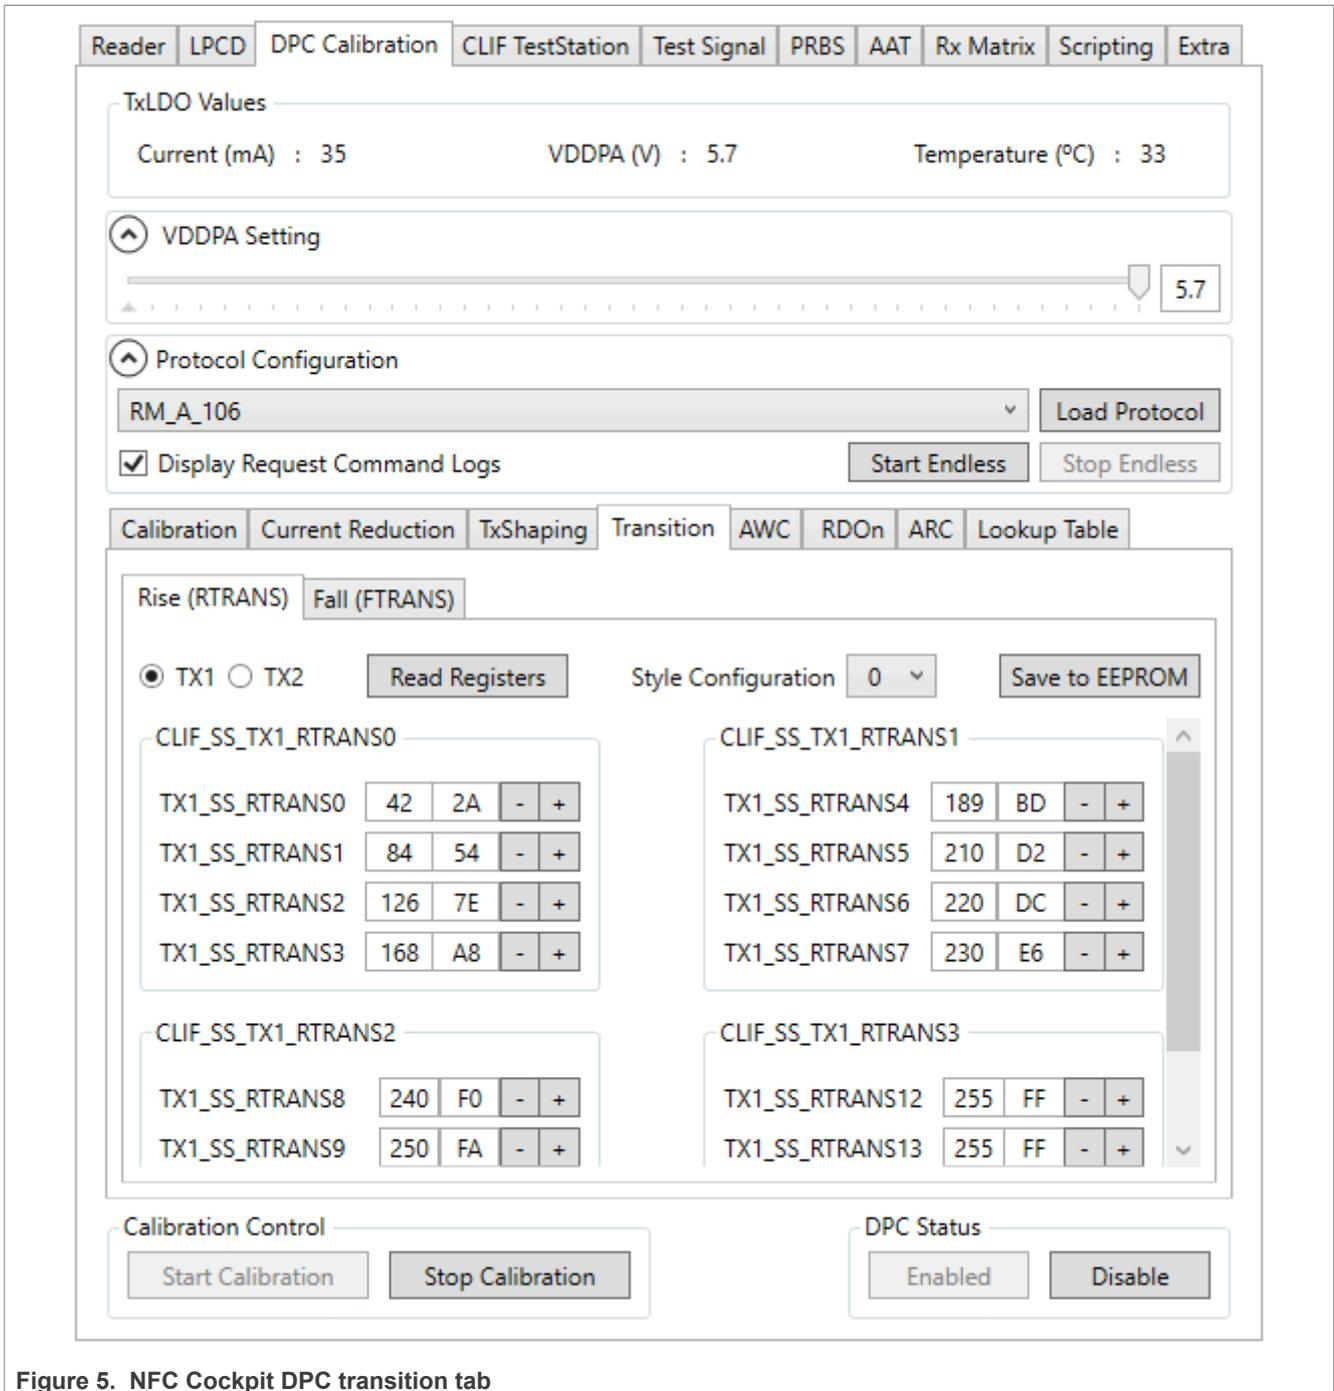

Figure 5. NFC Cockpit DPC transition tab
**Adjusting the TX shaping settings:** The register settings SS\_TX1\_RTRANS0 ... SS\_TX1RTRANS3 and SS\_TX1\_FTRANS0 ... SS\_T1FTRANS3 can be modified by the user anytime. The NFC Cockpit provides a transition tab, where all 16 values are read out of the registers, shown in decimal and hexadecimal, and then can be modified (see Figure 5).